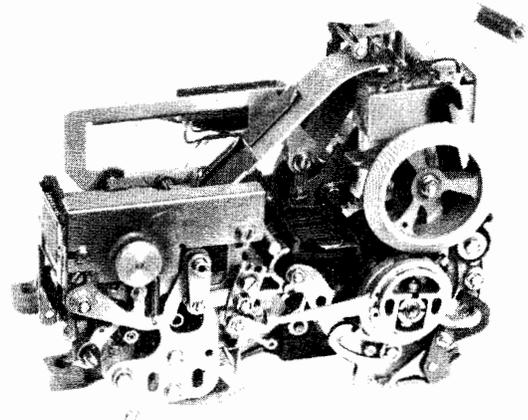

Figure 1 - 37 Nontyping Reperforator Unit
1.01 This section provides disassembly and reassembly instructions for the 37 nontyping reperforator unit (Figure 1). It is reissued to incorporate engineering changes and comments received on Issue 1. Since only a limited distribution was made on Issue 1, marginal arrows have been omitted.